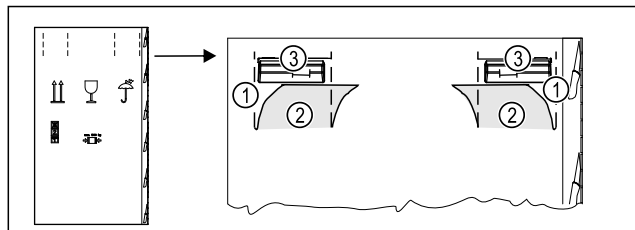

Fig. 4
- Press the packaging cardboard into the perforation Fig. 4 (1) at the top.
- Pull out any tabs Fig. 4 (2) that have been pushed in.
- Carrying handle Fig. 4 (3) visible on the right and left.
- Hold the appliance by the carrying handles Fig. 4 (3).